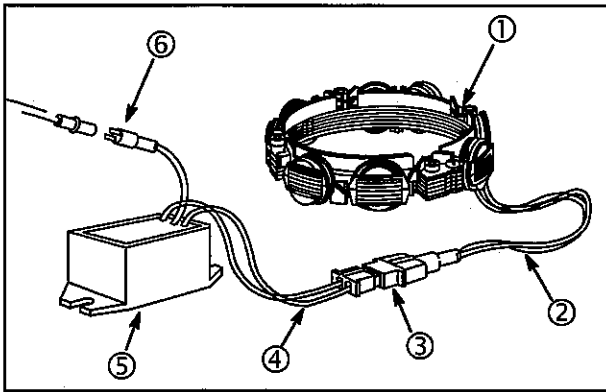

Fig. 26
1. Stator Assembly (1) – 10 or 16 amp DC regulated system, Fig. 26.
2. Two BLACK leads (2) from stator.
3. YELLOW connector (3) with two pin terminals.
4. Two YELLOW leads (4) to regulator-rectifier.
5. Regulator-rectifier (5).
6. One RED lead from regulator-rectifier to RED connector output lead (6).